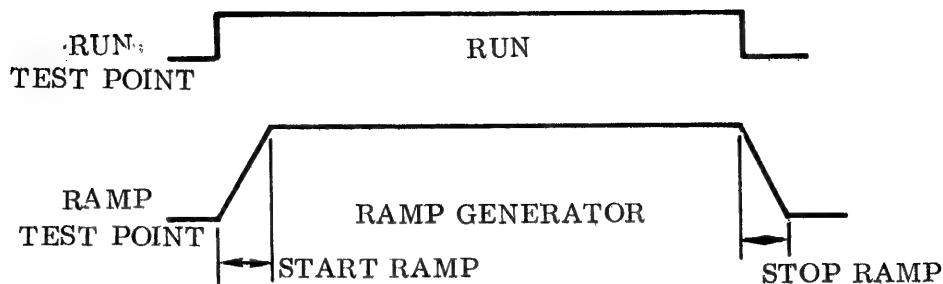

Figure 5-13. Ramp Adjustment Trace
- c. Adjust ramp potentiometer R242 to obtain ramp time of 4.5 ms at 75 ips. (See Figure 5-13.)